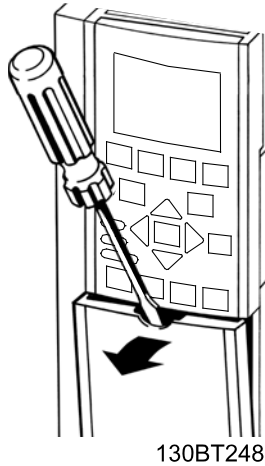
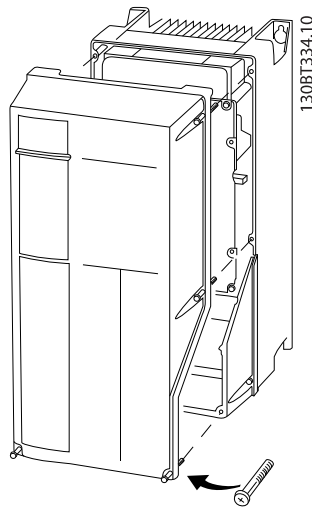

Figure 4.3 Access to Wiring for IP20 and IP21 Enclosures
Figure 4.4 Access to Wiring for IP55 and IP66 Enclosures
- Remove the cover with a screwdriver (See *Figure 4.3*) or by loosening the attaching screws (See *Figure 4.4*).